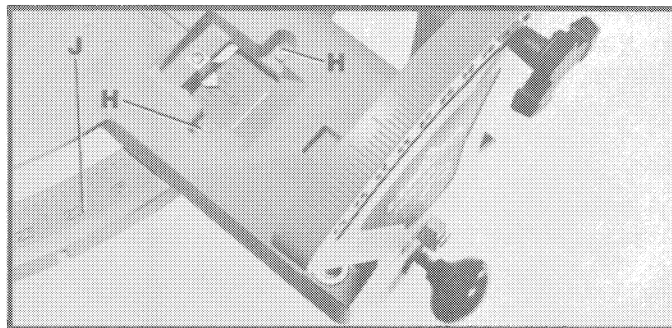

Fig. 32
4. If an adjustment is necessary, loosen two screws (H) Fig. 32, and make sure they are not contacting top surface (J) of fixed table.
10. Turn two screws (H) Fig. 32 until they just contact top surface of fixed table.
11. Loosen lock knob (N) Fig. 32, and slowly rotate track arm (P) 45 degrees right and left to make certain the rotating table moves freely without binding. If an adjustment is necessary, loosen two screws (H) Fig. 32, until they are just above and not contacting the fixed table surface.